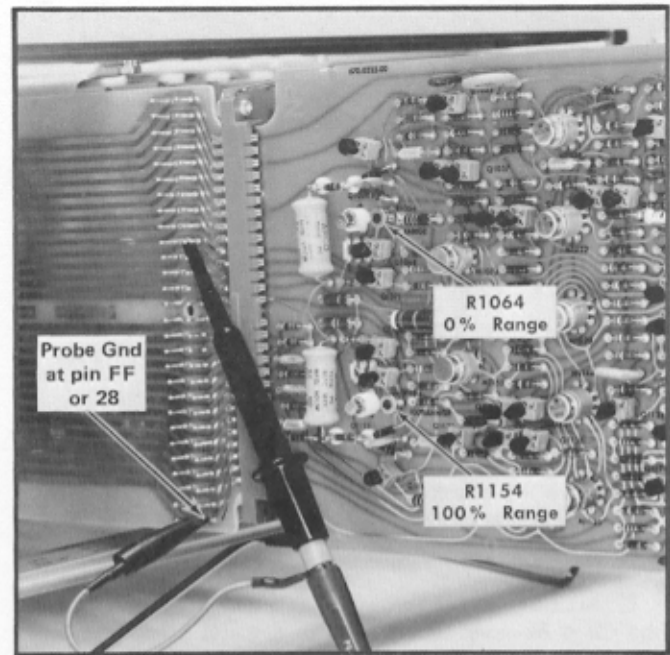

Fig. 7-3. Memory circuit card extended and the 1× probe connected to Pin L.
- Attach the 1× test probe to pin L of the extender card (Fig. 7-3).
- ADJUST—R1064, 0% Range adjustment on the Ch A Memory circuit card (Fig. 7-3) for a memory discharged level +6.0 volts above the ground reference.
- ADJUST—R1154, 100% Range adjustment on the Ch A Memory circuit card (Fig. 7-3) for a memory discharged level 2.0 volts below the ground reference level.